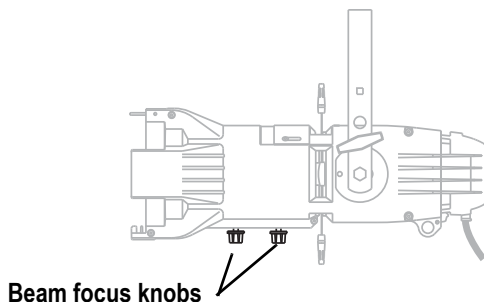

Figure 6
Step 1: Loosen the beam focus knob(s) on the underside of the barrel as shown in Figure 6.